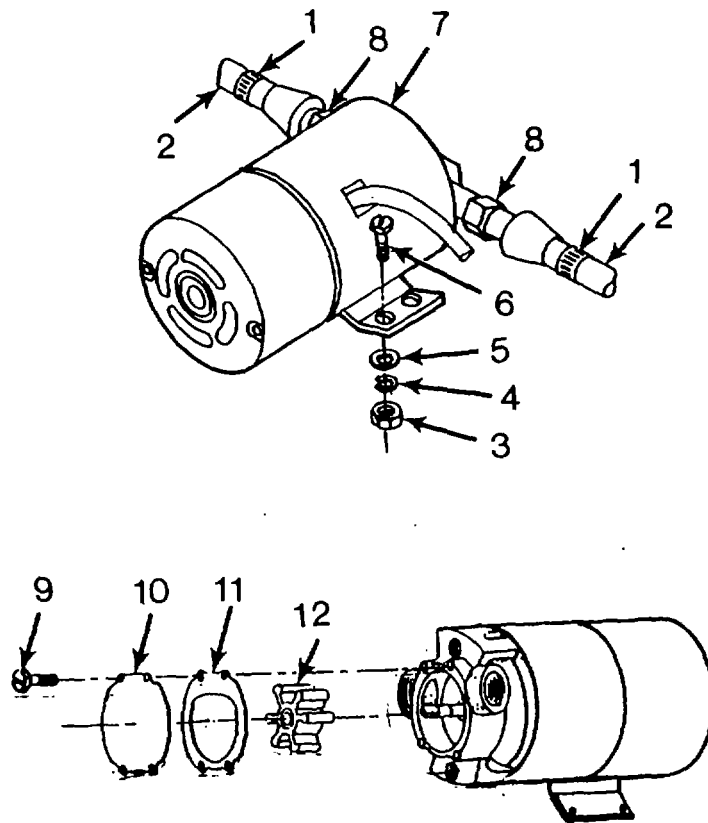

Figure 4-28. Replace Drain Pump Impeller
- (3) Tag and disconnect solenoid wires (3) leading from the solenoid (4).
- (4) Remove clamp (5) and hose (6).
- (5) Unscrew solenoid (4).
- (6) Remove plastic fitting (7) from solenoid (4).
- (7) Apply RTV sealing compound (Appendix E, item 33) to plastic fitting (7) and install plastic fitting (7) on solenoid (4).
- (8) Apply RTV sealing compound. Screw solenoid (4) in place.
- (9) Connect solenoid wires (3) and remove tags.
- (10) Install hose (6) and clamp (5).
- (11) Close rear door (2).
- (12) Turn on power and test operation.
- i. Repair Drain Pump by Replacing Impeller. (See Figure 4-28.)
- (1) Disconnect clamps (1) and hoses (2).
- (2) Remove nuts (3), lockwashers (4), flat washers (5), and screws (6) holding drain pump (7) in place.
- (3) Remove brass fittings (8).
- (4) Remove screws (9), plate (10), gasket (11), and impeller (12) from drain pump (7).